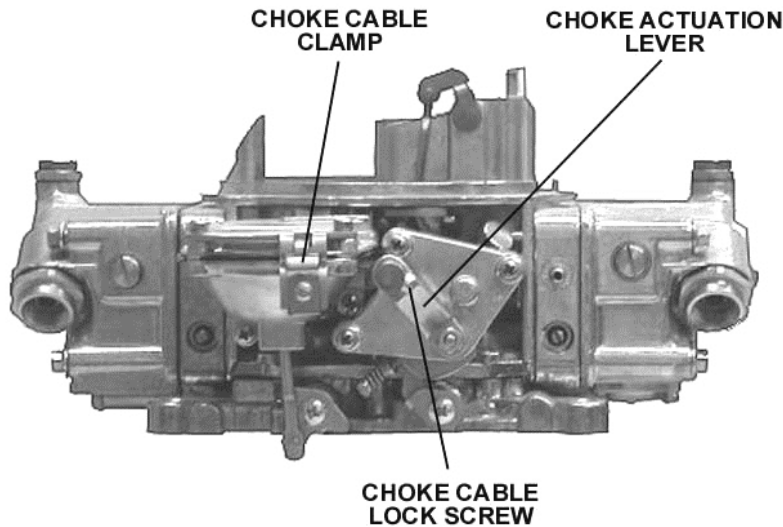

Figure 7 Manual choke parts (0-3310S shown)
A. Connect the choke control cable (Holley® P/N 45-228) to the choke actuation lever, and lock in place with the choke cable lock screw (Figure 7).